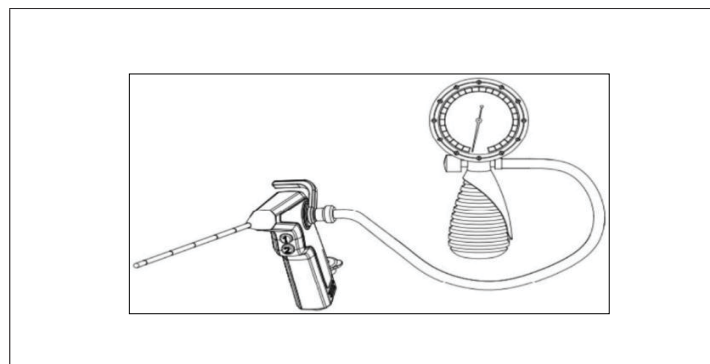

Fig 7.7
3. Attach the leak test pressure connector to the pressure valve of the endoscope, and make sure it is in place (as shown in Fig 7.7).